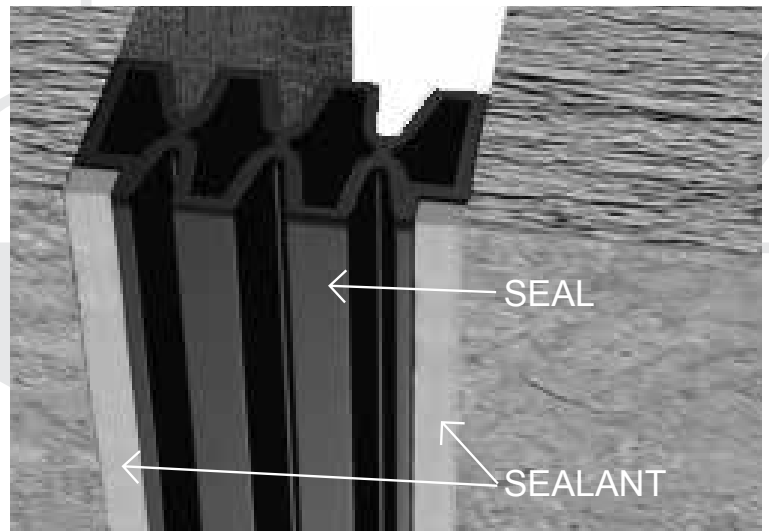

Figure 8—Silicone Application into an Irregular Joint
7. Apply a continuous bead of silicone sealant along both sides of the seal between the substrate and the tab of the seal (Figure 8).